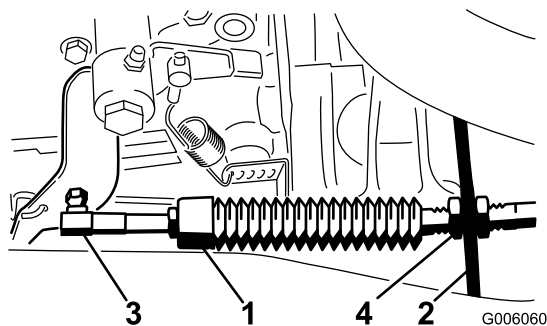

Figure 10
3. Mount the accelerator cable ball joint to the engine with a 1/4 inch lock nut (Figure 10).
4. Snap the accelerator cable end onto the ball joint stud (Figure 10).
5. Adjust the jam nuts on the threaded cable barrel so there is an equal amount of threads on each side of the jam nuts. Tighten the jam nuts (Figure 10).